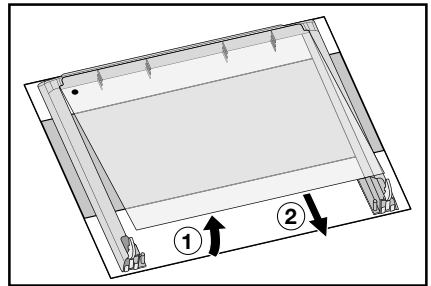

Fig. 9
11. Gently lift and carefully take off the innermost pane (Fig. 9).